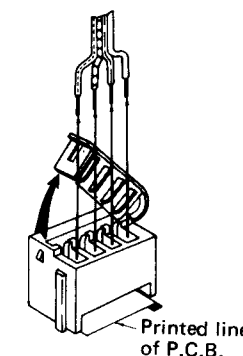

Fig. 16
1. To disconnect the lead wires from the lead connector, open the "lead holder" of the connector as shown in Fig. 16, and pull out the lead wires.
2. The lead wires are provided with identification colors or patterns as in Fig. 16. So, insert them into the connector in correct positions.